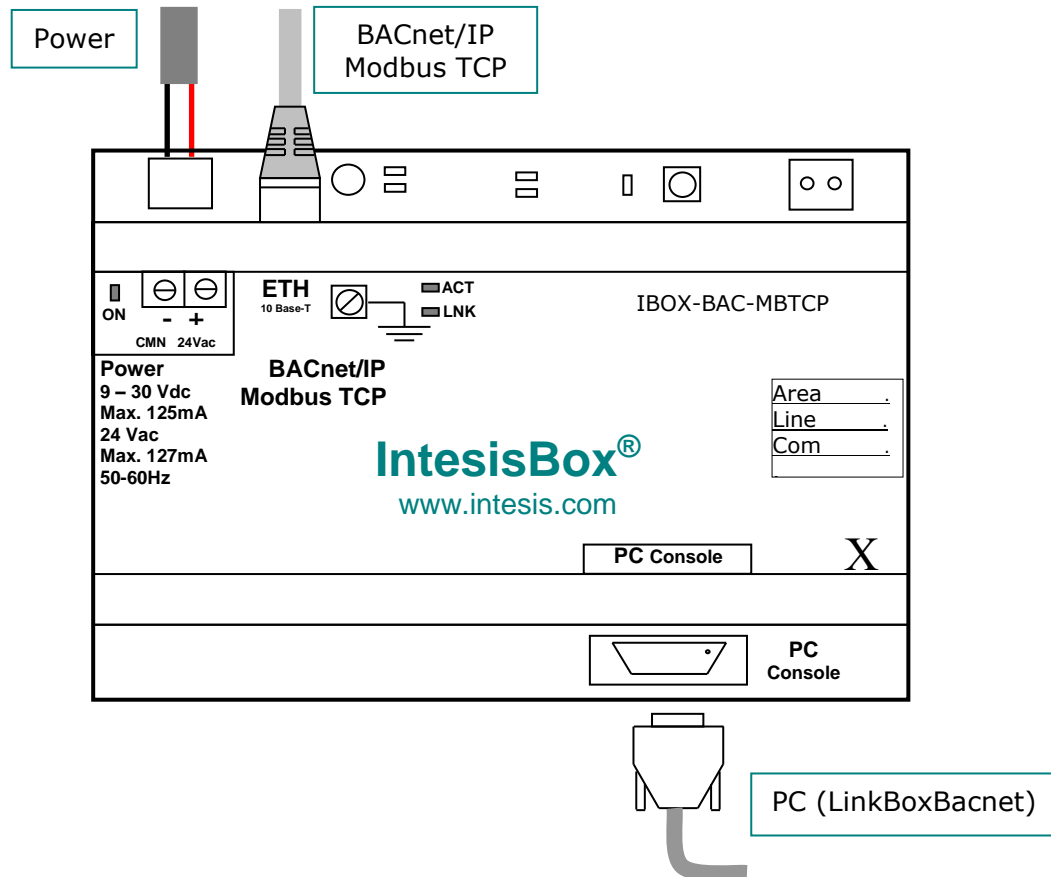

Figure 4.1 Device connection diagram
The first step to perform is to power up the device. To do so a power supply working with any of the voltage range allowed is needed (check section 6). Once connected the ON led (Figure 4.1) will turn on.
Connect the communication cable coming from the network hub or switch to the ETH port (Figure 4.1) of IntesisBox. The cable to be used depends on where the IntesisBox is being connected:
- Ethernet: Using the ETH port (Figure 4.1) of IntesisBox. How to check connectivity is explained in section 4.3.
- Serial cable: To connect the device to the PC the serial cable supplied should be plugged to the PC console port (Figure 4.1).